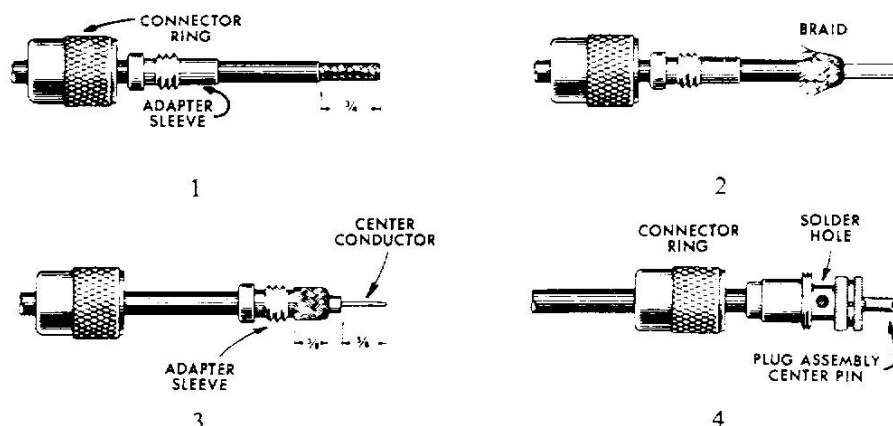

Figure 2-4. Connector Assembly
1. Trim end of co-ax cable flush; then remove outer jacket from cable to dimension shown in Figure 2-4. Next slide connector ring and adapter sleeve on cable.
2. Fan out braid, and fold back as shown in (2) of Figure 2-4.